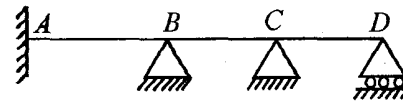

Fig. 1
1. (a) Determine the degree of external static indeterminacy of the beams as shown in Figs. 1 and 2 for the general case loading ? 5